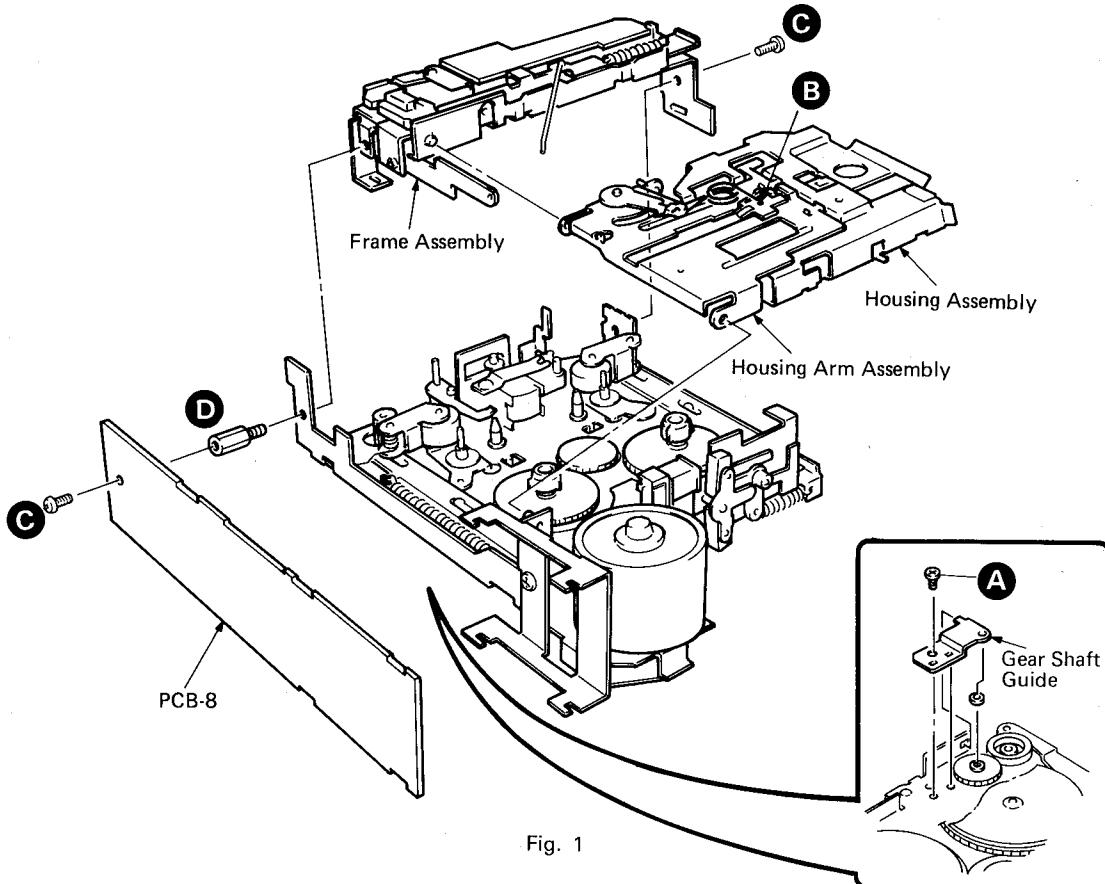

Fig. 1
2. Remove the 1 screw **A** and the Gear Shaft Guide. (See Fig. 1)